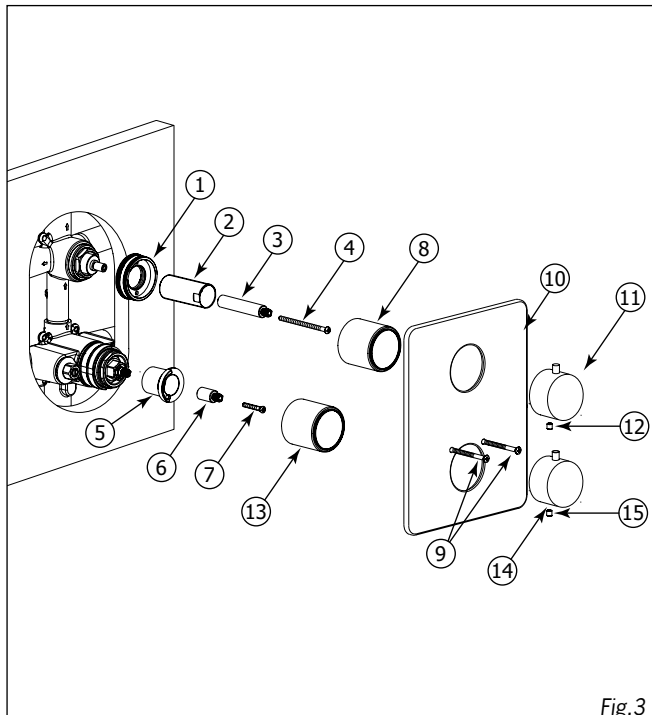

Fig.3
Insert the broach extensions (3 & 6) and secure with the screws (4 & 7). Then screw the components 2 & 1 in place, and put the temperature stop ring (5) onto and thermostatic cartridges. Screw the decorative sleeves (8 & 13) onto the thermostatic and diverter holders (See Fig.3).